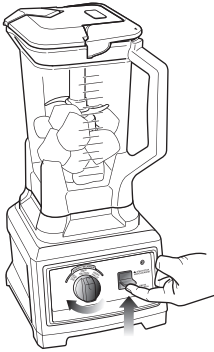

Fig. 6
- 8 Turn the Speed Dial to LOW. (Fig. 6) The power indicator light (Ⓢ) will now turn on. To start the blender, press the "Start/Stop/Pulse" toggle up to start processing. Slowly increase to desired speed.